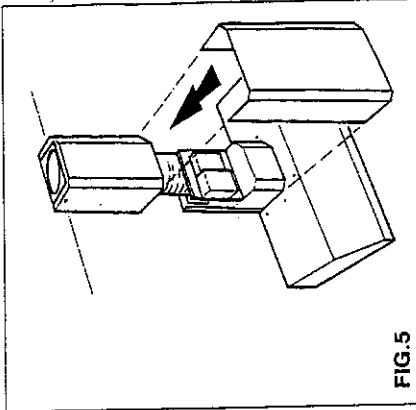
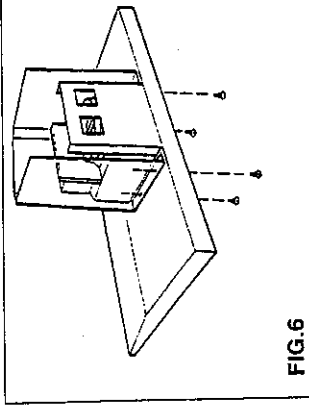

FIG. 5
FIG. 6
- Now fit the lower pipe, by inserting it from front side (Fig.5) and fix it with apposite screws. Screws must be worked from the inside of appliance (Fig.6).